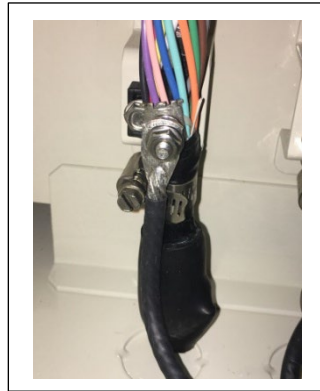

Figure 8
3. Mark the cable sheathing between the two bolts on the attachment piece and remove the sheathing from the mark to the end of the cable (Figure 8).